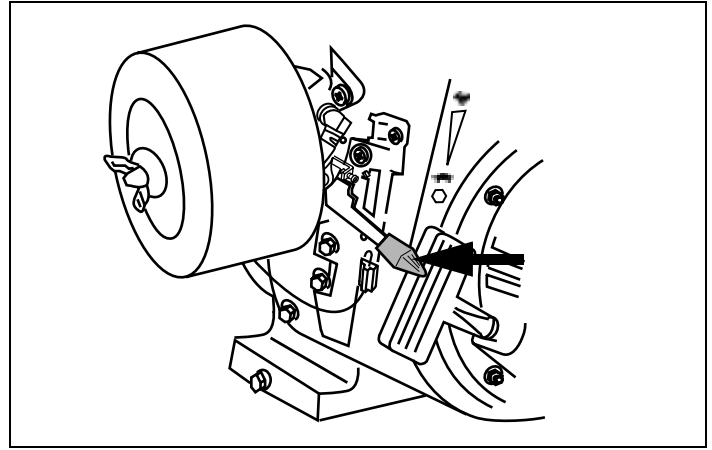

Figure 21. Engine Mounted Speed Control
3. Move engine speed control to "FAST" position. See Figures 21 thru 23